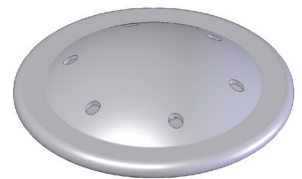

FIG 15-3
3. With the sprayhead removed, insert the delimiting spring (provided) all the way into the sprayhead tube. When inserted properly, no more than two inches of spring should be visible. Saw back and forth five or six times. FIG 15-3. NOTE – In hard water areas, this may need to be done daily. It will help prevent liming problems in the brewer and takes less than a minute.